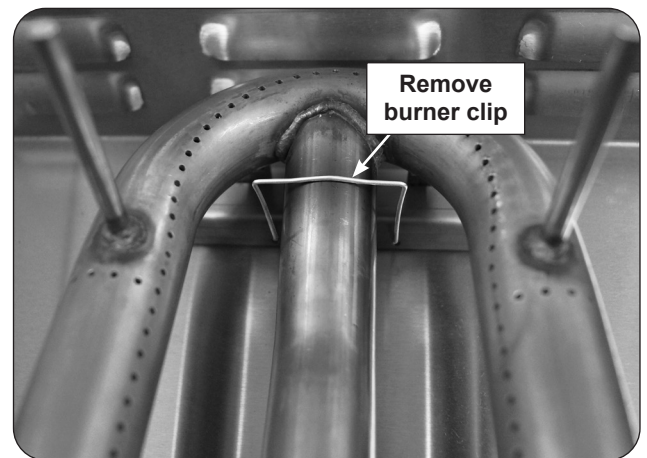

Fig. 43-2 Main burner removal
3. Locate the burner clip (located over the rear center tube of the burner) and slightly pinch and remove the clip from the burner support. See Fig. 43-2.